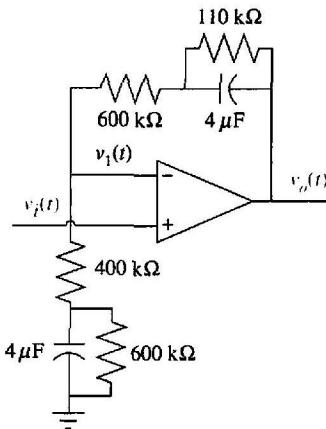

FIGURE P2.8
22. Find the transfer function, $G(s) = V_o(s)/V_i(s)$, for each operational amplifier circuit shown in Figure P2.8. [Section: 2.4]